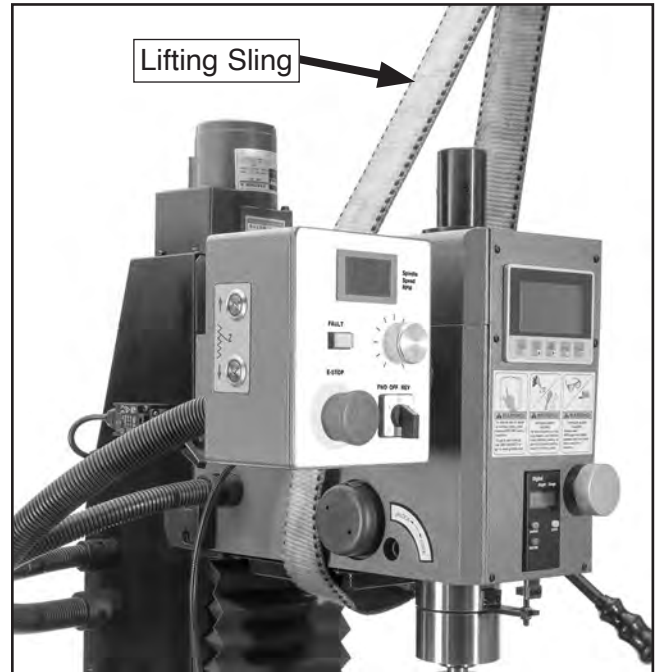

Figure 15. Example of lifting sling positioned under headstock.
5. Position lifting sling under headstock (see **Figure 15**), and connect sling ends to forklift.